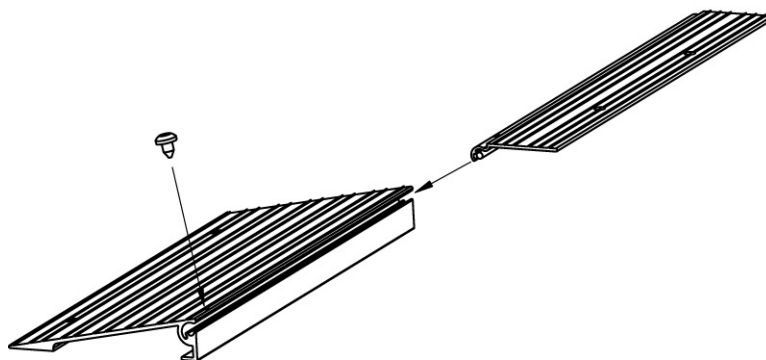

FIG 3
- a. Slide sections together starting with the foot (A) until the hole and slot line up. Install a #6 screw and tighten (FIG 3). Continue installing extensions until desired height is reached. Install the flap (H), if used, in the uppermost extension.